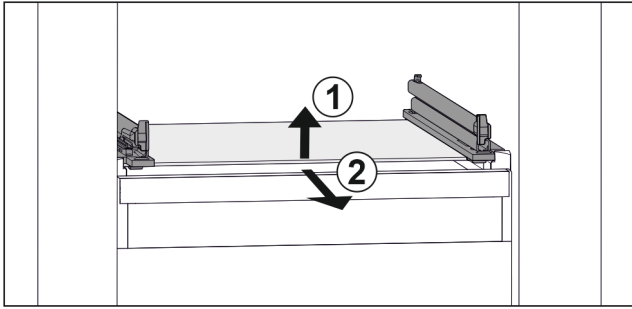

Fig. 141 Example illustration of glass shelf
- ▶ Lift glass shelf at the front. Fig. 141 (1)
- ▶ Take out glass shelf to the front. Fig. 141 (2)